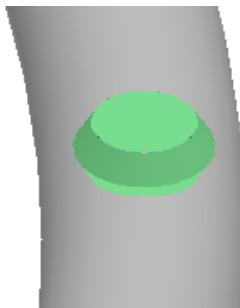

Figure 11. 20: Graphical Display of Weldolet
13. Leave the Angle as 0 deg, which should point the outlet of the weldolet up as shown in Figure 11. 20, then select Finish.